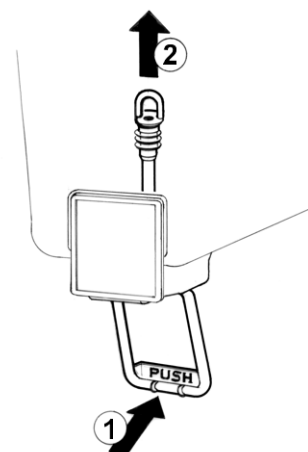

figure 3
**5 Pinch tube faucet:** push the dispensing handle (1) and take the pinch tube off from its seat (2) (see figure 3).